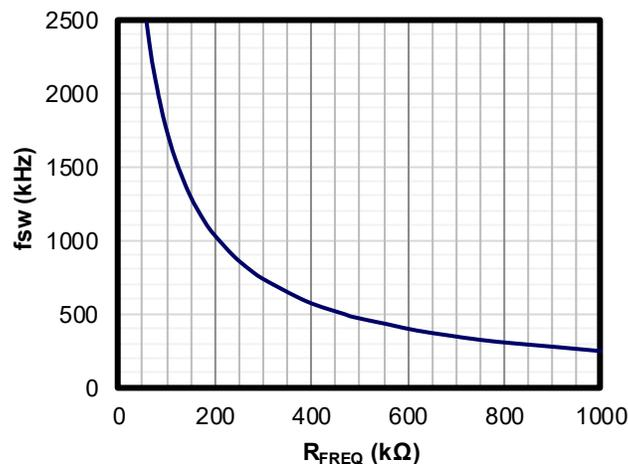

Figure 1: f_{sw} vs. R_{FREQ}
7. Figure 1 shows the relationship between the external frequency resistor (R_{FREQ}) and the MPQ2167A's switching frequency.